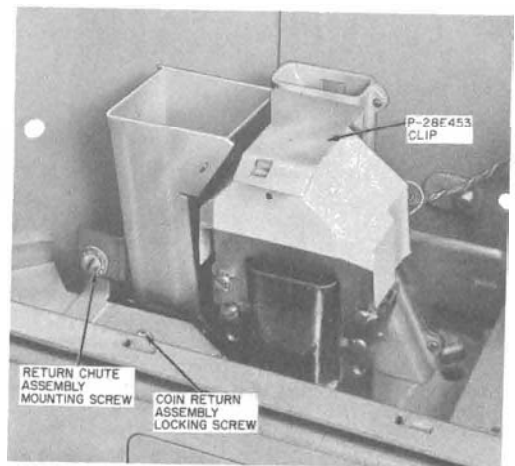

Fig. 7—Coin Relay and Return Chute Assembly
### 2.12 To remove return chute assembly (Fig. 7):
**2.14** To remove coin relay (Fig. 7):
- (3) Install dust cover and P-28E453 clip (Fig. 7).
(4) Install return chute assembly (2.12).
- (1) Remove return chute assembly (2.11).
- (2) Remove coin return assembly locking screw (Fig. 7).
(3) Insert finger in coin return and tilt top forward.
(4) Lift coin return. Pull coin return assembly out and up.